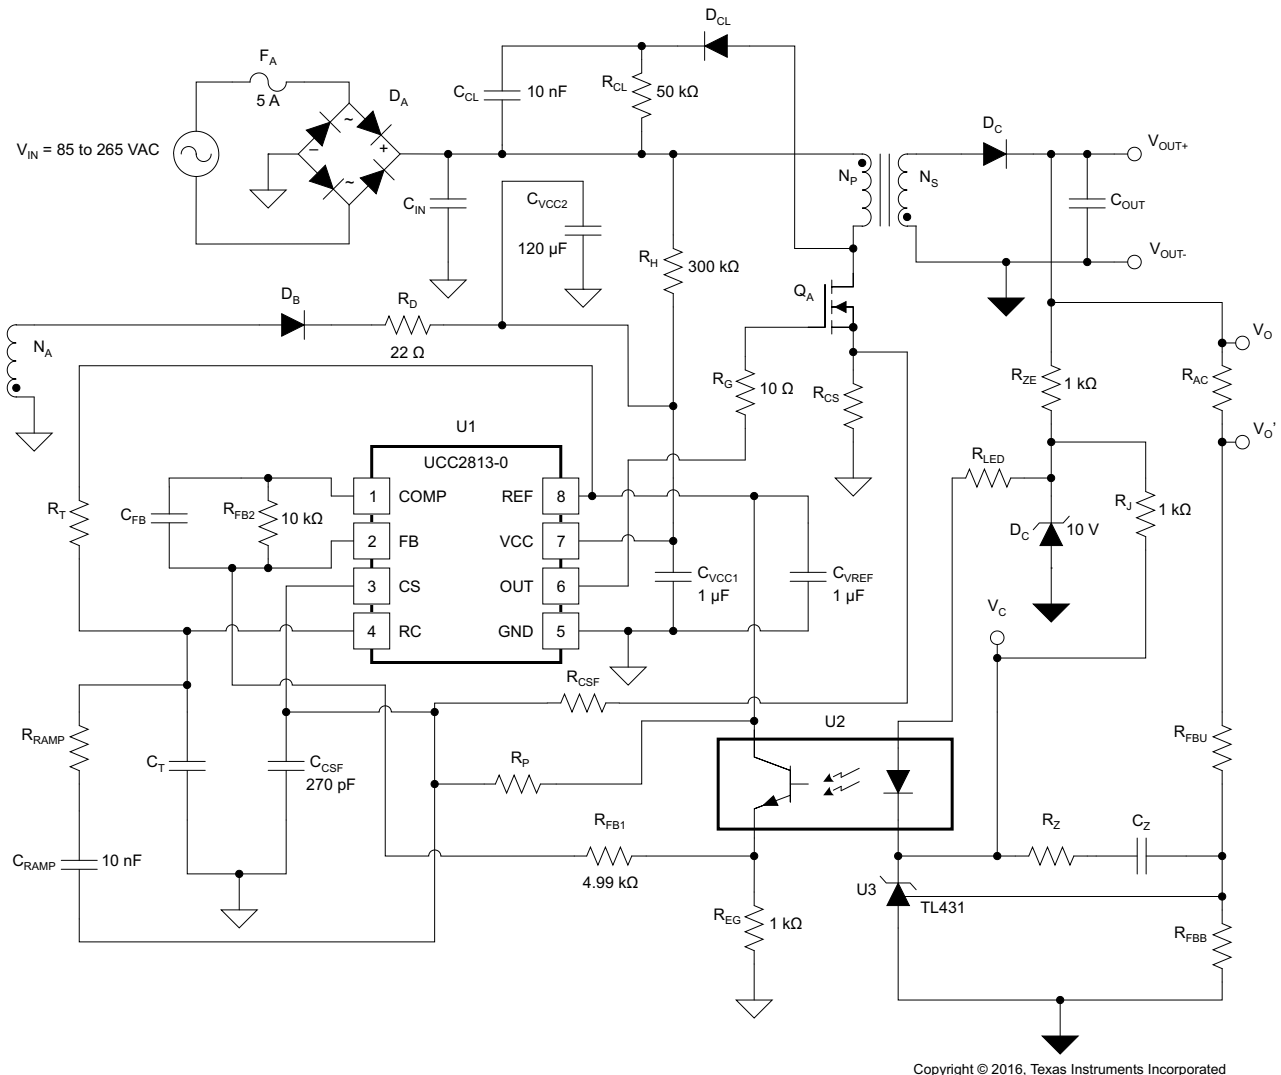

Figure 8-1. Typical Application Circuit Diagram
Figure 8-1 illustrates a typical circuit diagram for an AC-DC converter using the UCC2813-0 in a peak-current-mode-controlled flyback application.
The DC open-loop gain (G_O) of the fixed-frequency voltage control loop of a peak-current-mode control CCM flyback converter shown in Figure 8-1 is approximated by first using the output load (R_{OUT}), the primary to secondary turns ratio (N_{PS}), and the maximum duty cycle (D) as shown in Equation 18.